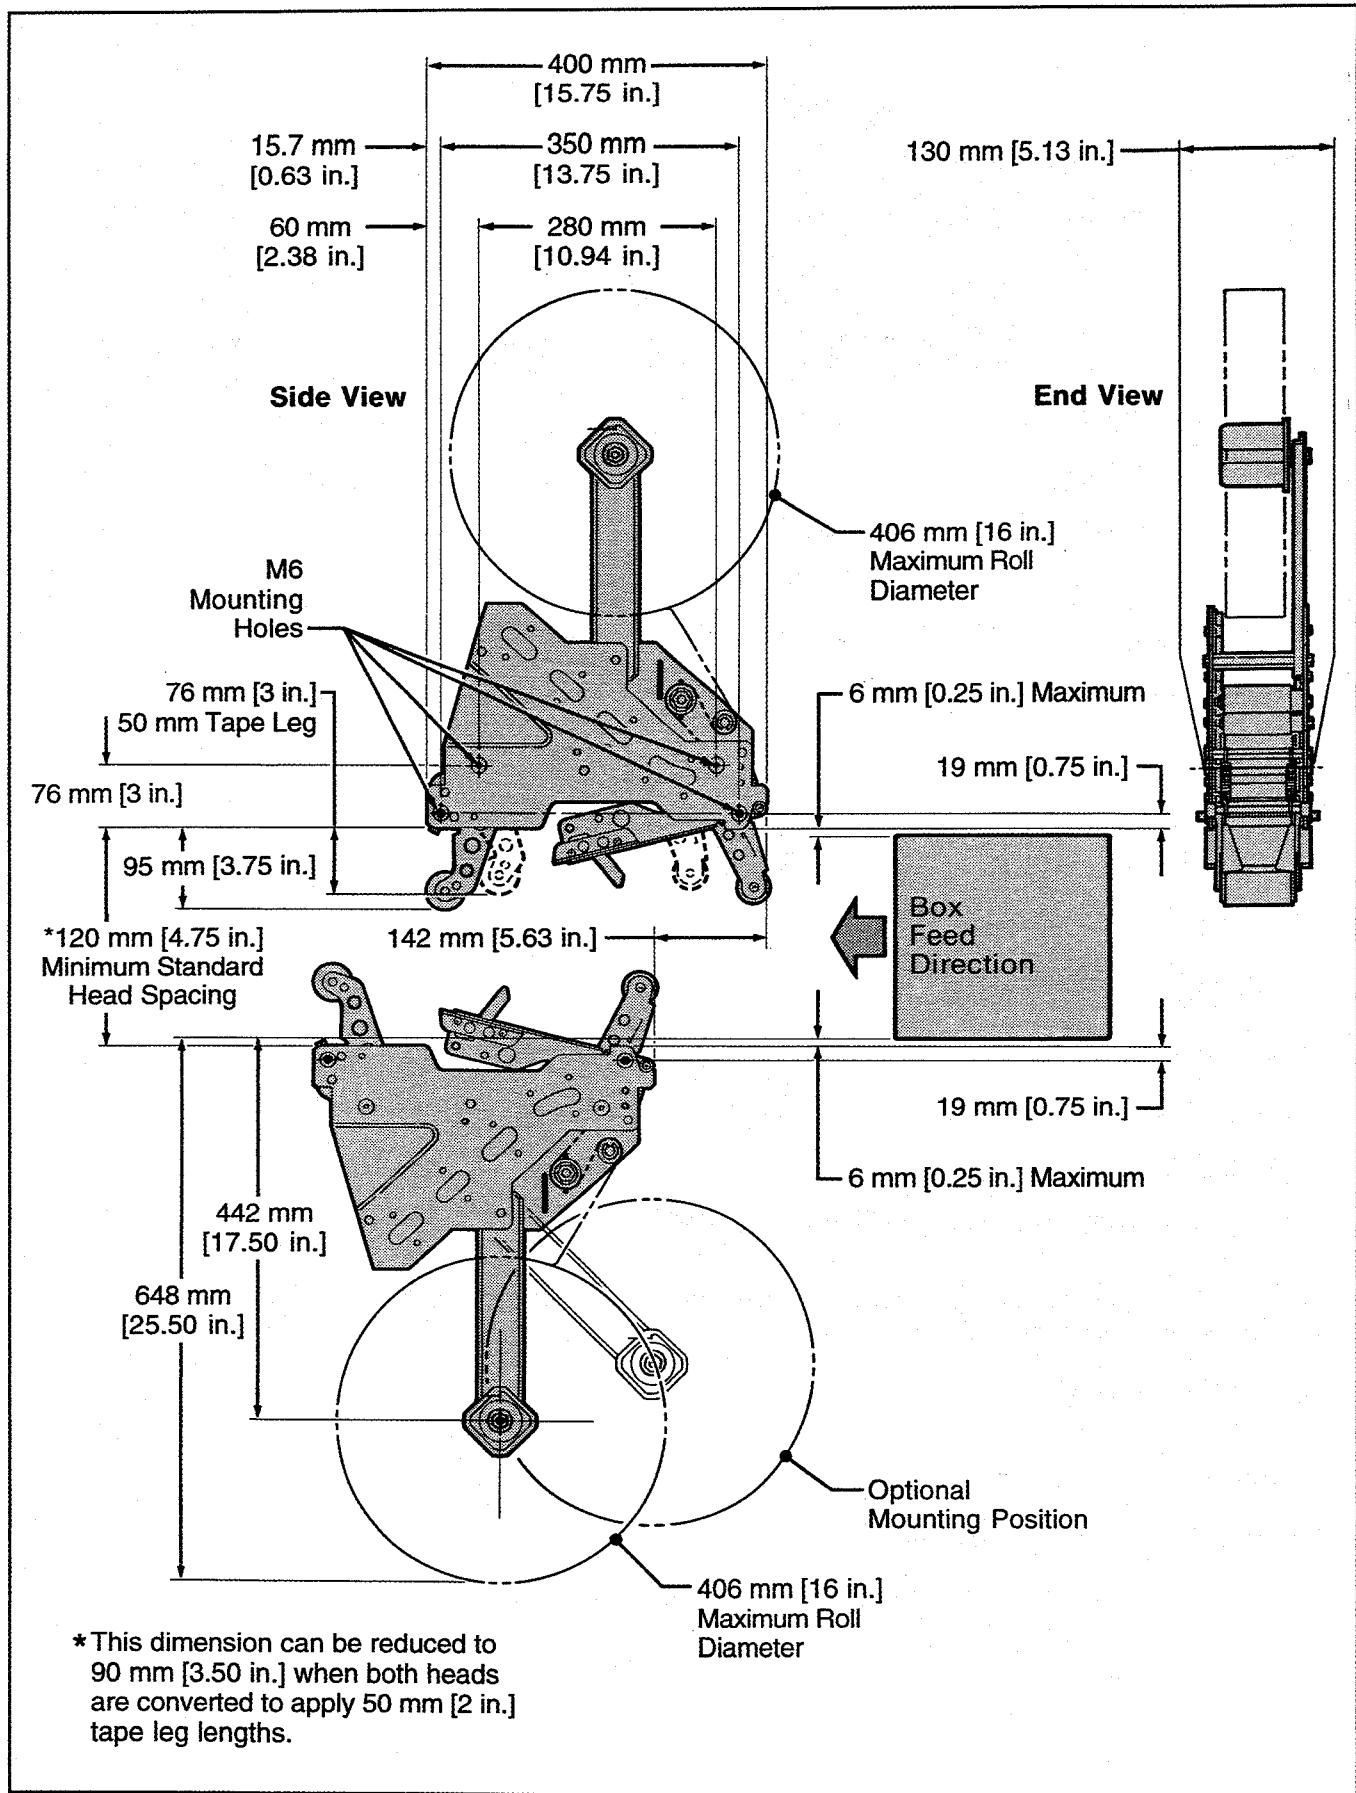

Figure 2-1 – Dimensional Drawing
The taping head assembly can be used in converting existing or in custom made machinery. It can be mounted for top taping or bottom taping. Refer to box size specifications on page 3, and Figure 2-1 on page 4, for the following points in making such installations:
3. Figure 2-1 illustrates the typical mounting relationship for opposing taping head assemblies to allow taping of box heights down to 90 mm [3.50 inches]. **To tape box heights down to 70 mm [2.75 inches], the taping heads must be completely staggered so only one tape seal is being applied at one time.**